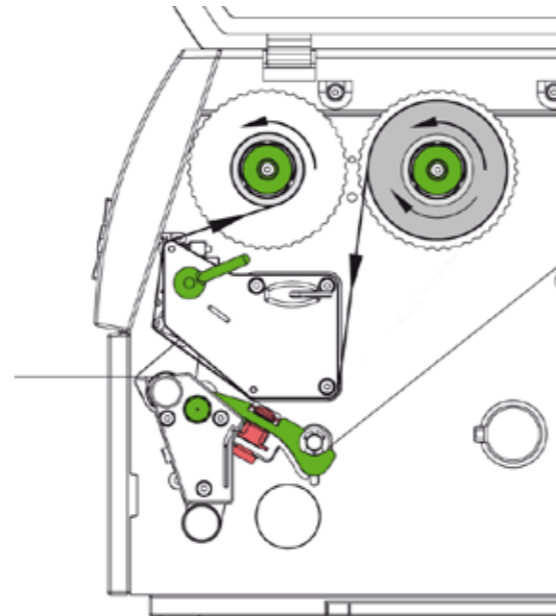

Fig. 17 Feed path of the ribbon
6. Slide suitable core (4) onto the ribbon take-up hub (5) and secure it in the same way.
7. Guide ribbon through the print unit as shown in Fig. 17.
8. Secure leading end of the ribbon to the ribbon core (1) with adhesive tape. When using cores which are wider than the ribbon use the scale (7) on the print head retainer to adjust the path of the ribbon. Ensure counterclockwise rotation of the ribbon take-up hub.
9. Turn ribbon take-up hub (5) counterclockwise to smooth out the feed path of the ribbon.
10. Turn lever (6) clockwise to lock the print head.